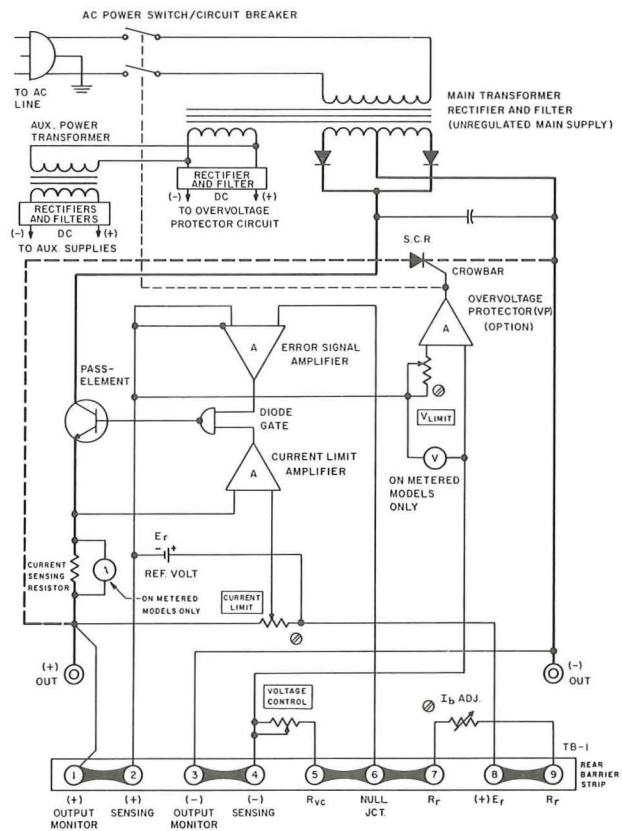

FIG. 4-1 SIMPLIFIED DIAGRAM, JQE HALF-RACK POWER SUPPLY
(References in CAPITAL LETTERS refer to the nomenclature used in FIG. 4-1)
4-1 SIMPLIFIED DIAGRAM DISCUSSION (Refer to FIG. 4-1)
- 1) Check rear barrier-strip jumper connection for correct placement and tight seat (Refer to FIG. 4-1).
- 3) Check reference voltage from terminal (2) to (8) on the rear barrier strip. Correct reference potential is 6.2V nominal.